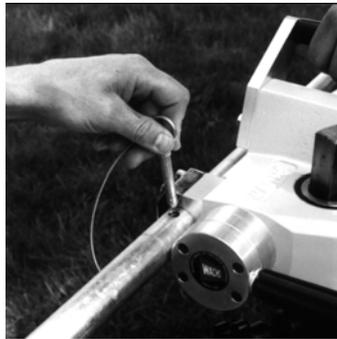

Figure 5-26. Attaching the extension handle.
1. Insert the extension handle into the side of the WAVE™ head opposite the handle, as shown in Figure 5-26.